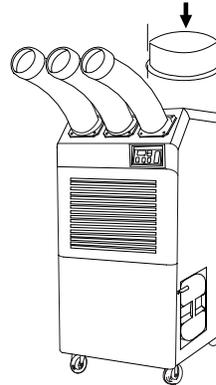

Figure 2
3. Use screws (enclosed inside of box with the top fan exhaust flange) to install the top fan exhaust flange on air conditioner as shown in Figure 2.